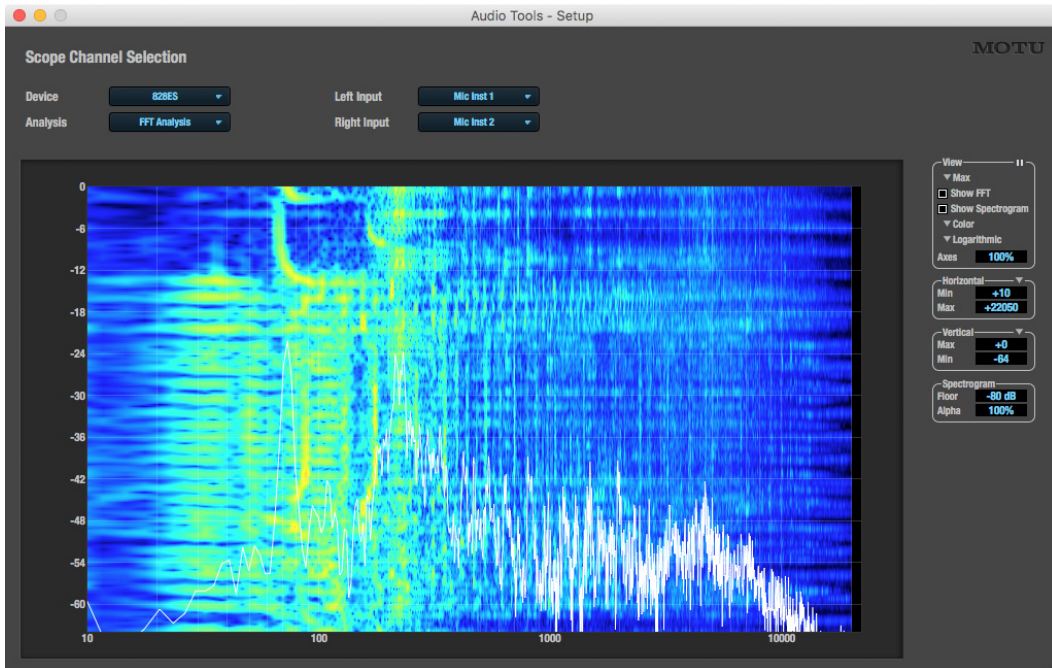

Figure 10-1: The MOTU Audio Tools window with the FFT and Spectrogram Analysis.
If you are working with more than one MOTU audio interface, the *Device* menu (Figure 10-1) displays all interfaces that are currently connected to your host computer. Choose the device you wish to work with.
Choose the desired form of audio analysis from the *Analysis* menu (Figure 10-1). For details on each analysis pane, see the following sections of this guide.
Choose the desired channel(s) you wish to scope from the *Left Input* and *Right Input* menus (Figure 10-1). These menus display the *To Computer* channels configured in the MOTU Pro Audio Control web app. The number of channels shown is controlled by the *To Computer* setting in the Routing tab (item 30 on page 15). For example, if 18 channels are specified, you'll see 18 channels in the *Left/Right Input* menus. Use the Routing tab to map desired audio sources (listed across the top of the grid) to the *To Computer* audio channels, as demonstrated in Figure 8-7 on page 72.